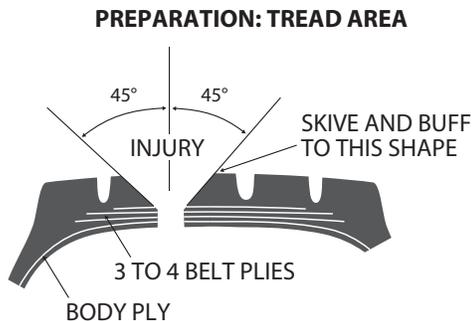

Figure 3
3. Preparation of skive – Using a tapered knife in the tread area, skive the damaged rubber to approximately a 45° angle (see Figure 3).